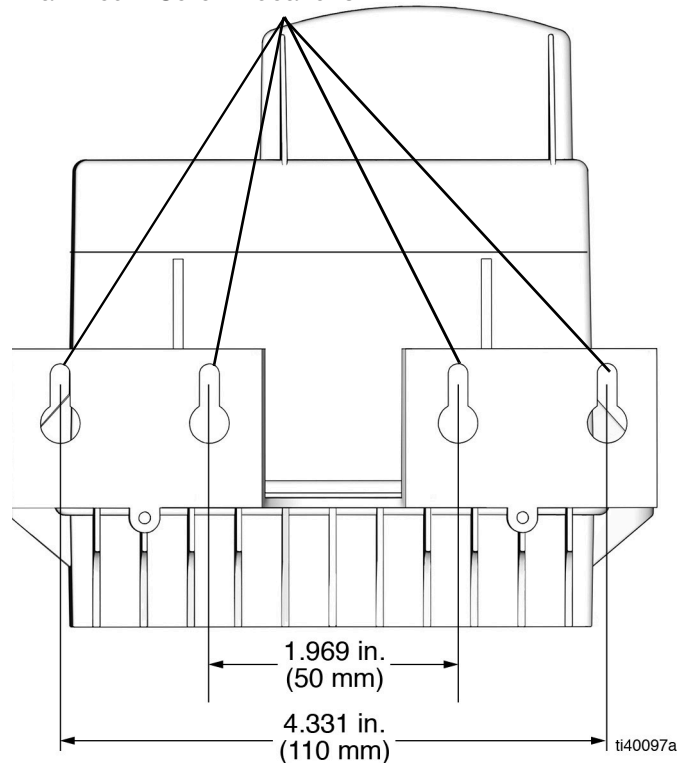

FIG. 3
3. Using wall mount screws (FIG. 3):